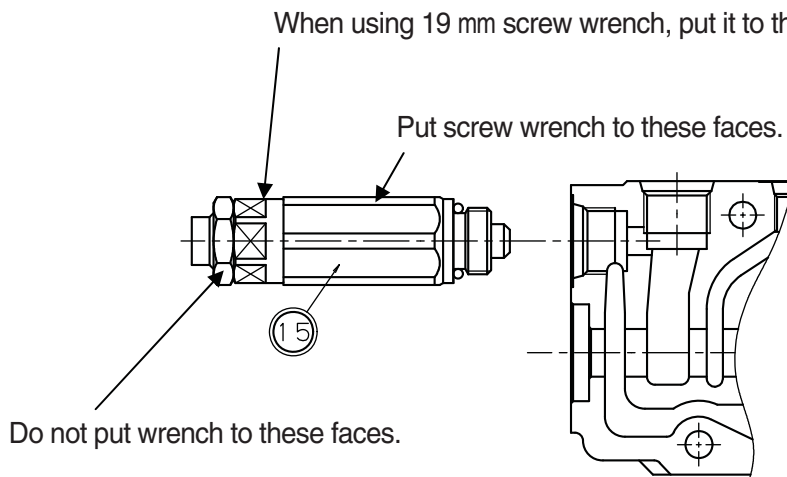

Fig.23 Installing main relief valve and overload relief valve
Installing main relief valve (MRV) and overload relief valve (ORV) (see Fig.23)
- ① Fasten ORV (15) with specified torque with 22 mm screw wrench or deep socket wrench.
- Put screw wrench (or deep socket wrench) to 22 mm hexagonal part of pressure regulating body. Screw wrench to put the hexagonal part as shown in the Fig.23.